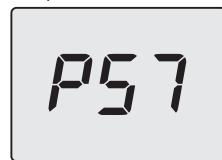

Fig. 8.4
- Scroll through the various parameters by pressing the keys 13 (back) or 15 (forward), until **P57**, which alternates with the parameter value, appears on the LCD display (Fig. 8.4).